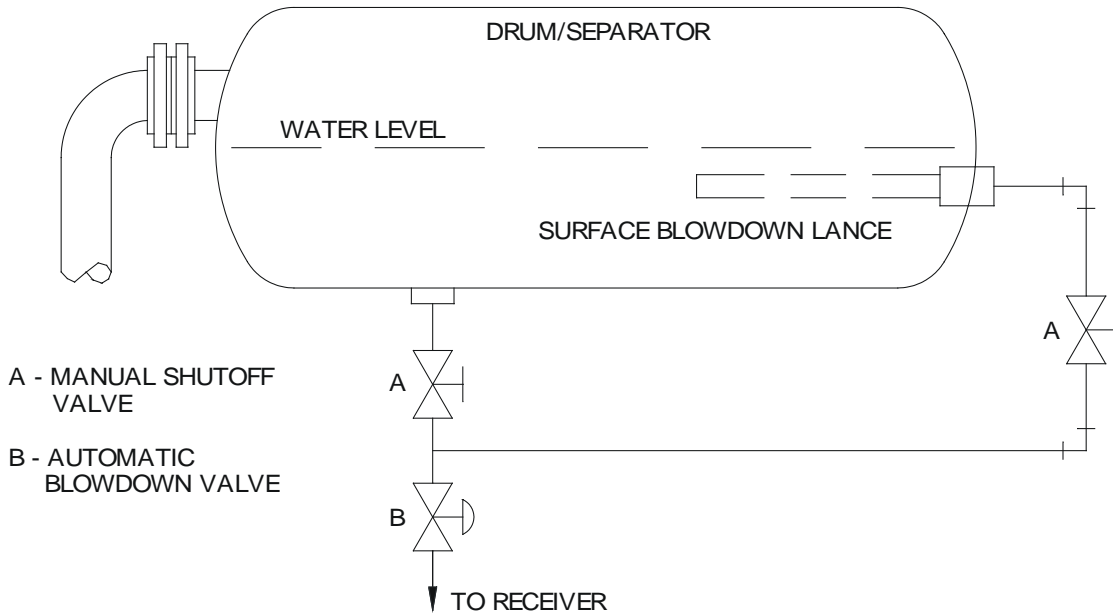

Figure 28. Simultaneous Surface and Bottom Blowdown Arrangement
17.2.2 Figure 28 illustrates a method of piping for simultaneous surface and bottom blowdown.